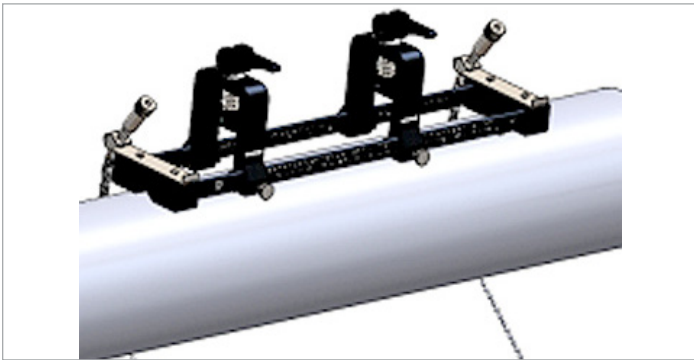

Figure 11: Fixture placed on top of pipe
4. Place the clamp-on fixture on top of the pipe so that minimal effort is required to maintain its position during installation (see *Figure 11* below).